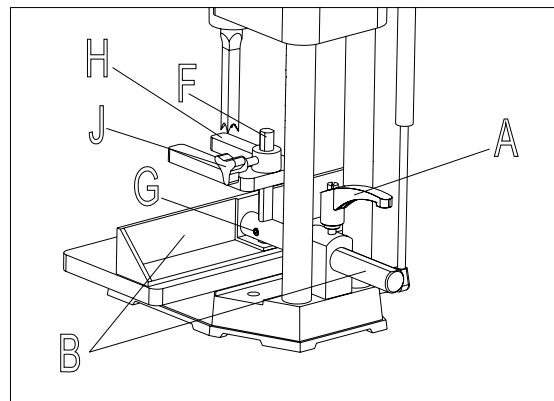

Fig7
1. Locate handle assembly and remove screw (A) Fig.7, and spring (B) from handle (C). Sperate handle
5. Insert bar of fence assembly (E) Fig. 7, through hole in column as shown. Tighten handle (C) against flat on fence bar to hold fence in position. **NOTE:** Handle (C) is spring-loaded and can be repositioned on the stud located underneath the handle by pulling out the handle and repositioning it on the stud.
6. Insert bar (F) Fig. 7, into hole on top of fence as shown, and tighten set screw (G) against flat on bar (F).
7. Assemble the holddown (H) Fig. 7, onto bar (F) as shown, and tighten set screw (J) against flat on bar.